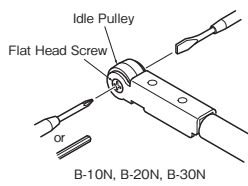

Fig.19
- (1) B-10N, B-20N, B-30N (Fig.19)